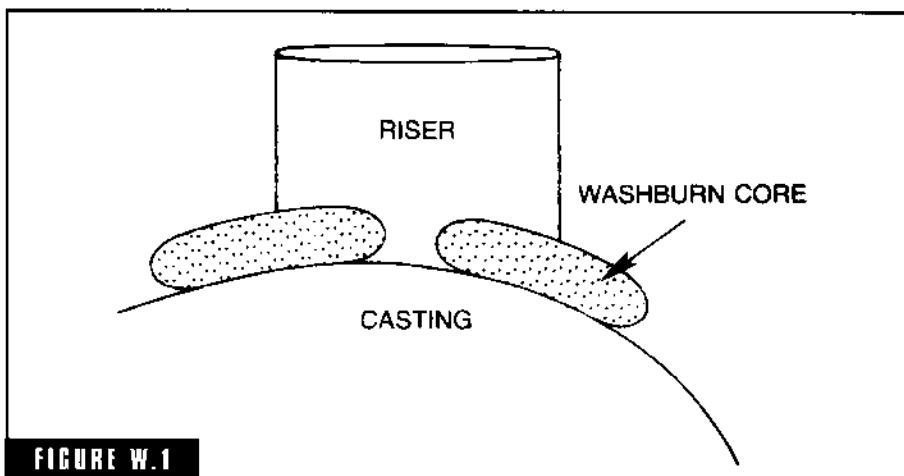

FIGURE W.1
**washburn core** A washburn core consists of a riser necking core which conforms to the shape of the casting at the point of riser attachment (Fig. W-1). Its purpose is to keep the riser open so that it can feed the casting and at the same time reduce the size of the riser attachment, resulting in a great saving in riser removal and grinding. The core can be made of various kinds of refractory material (fired ceramic shape) or a rodded oil sand core. There is a straight-line relationship between the thickness of the core and the neck diameter.